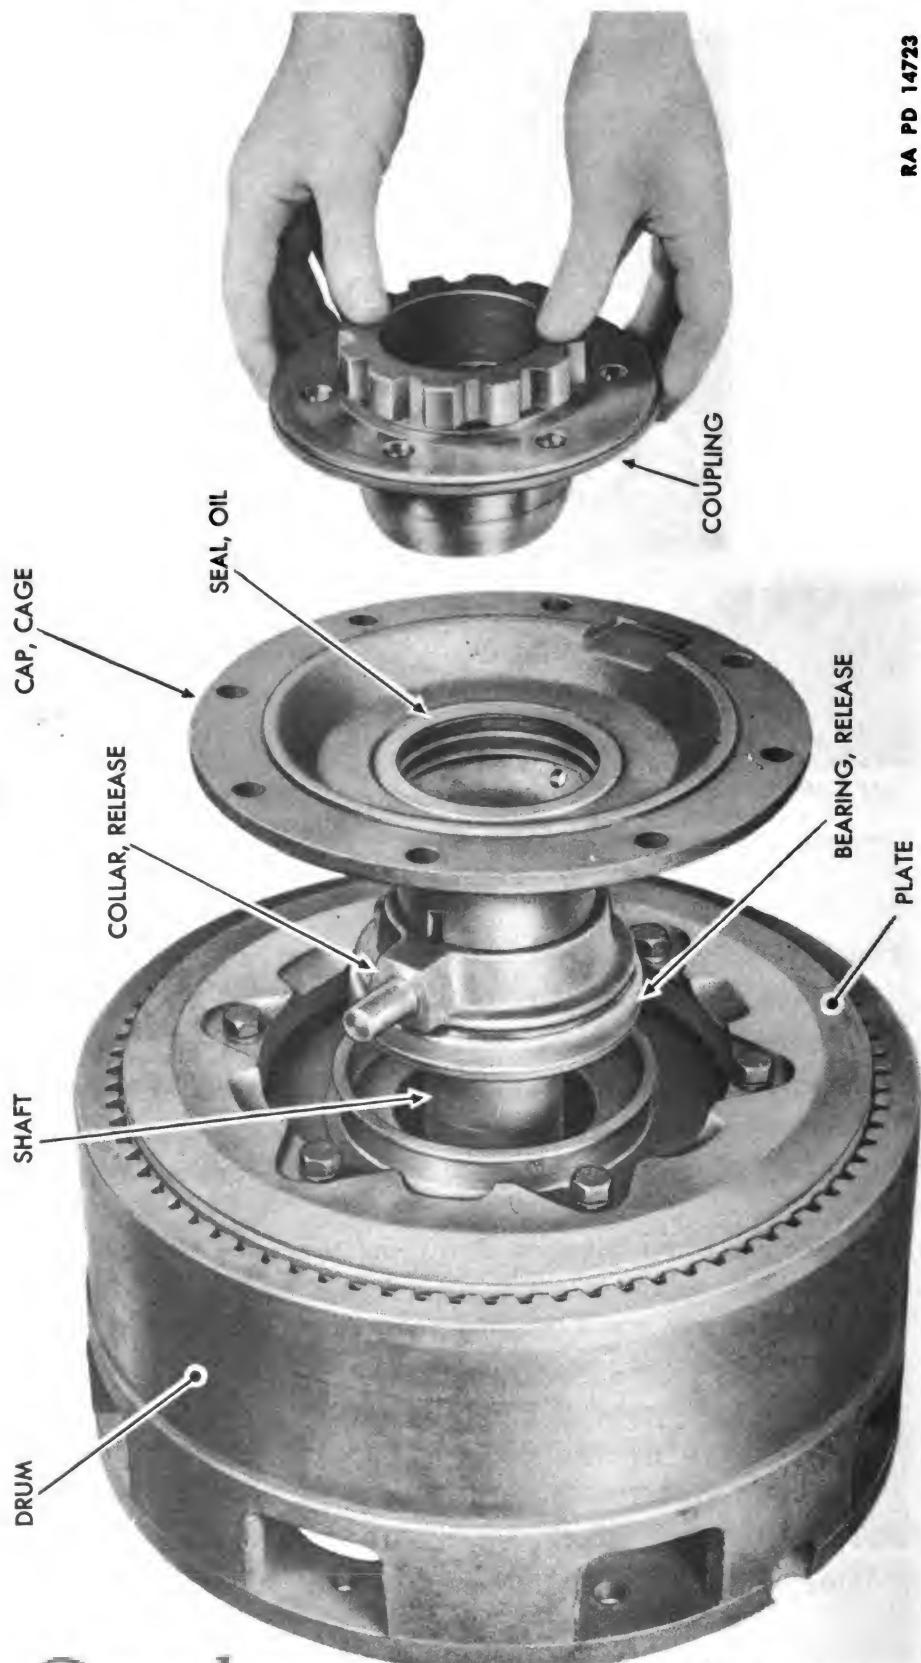

Figure 98 – Steering Clutch Coupling Removal
- (1) REMOVE GASKET FROM BEARING CAGE CAP.
- (2) LIFT OFF COUPLING (fig. 98).
- (3) REMOVE CAGE CAP, RELEASE COLLAR, BEARING, AND COLLAR KEY FROM SHAFT (fig. 98).